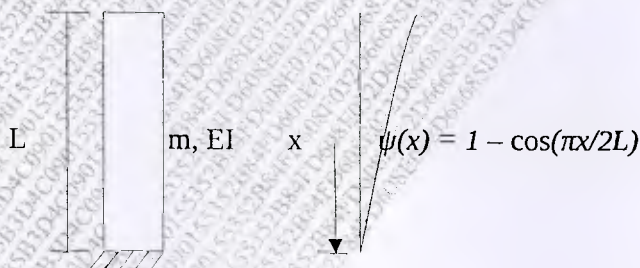

Fig. 3(i)
- (c) Overdamped system. (8)
- b) Explain SDoF and MDoF with neat sketch. (4)
- Q.2.** a) Using Duhamel's Integral, determine the response of an undamped system to a rectangular pulse force of amplitude p_0 and duration t_d . (8)
- b) Describe in brief methods of numerical evaluation of dynamic response. (4)
- i) A uniform cantilever tower of length L has a mass per unit length = m and flexural rigidity EI is shown in fig.3(i). Assuming that the shape function $\psi(x) = 1 - \cos(\pi x/2L)$, formulate the equation of motion for the system excited by ground motion and determine its natural frequency. (12)